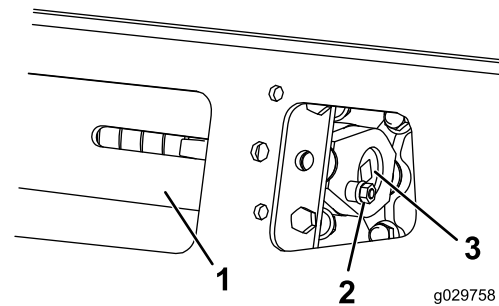
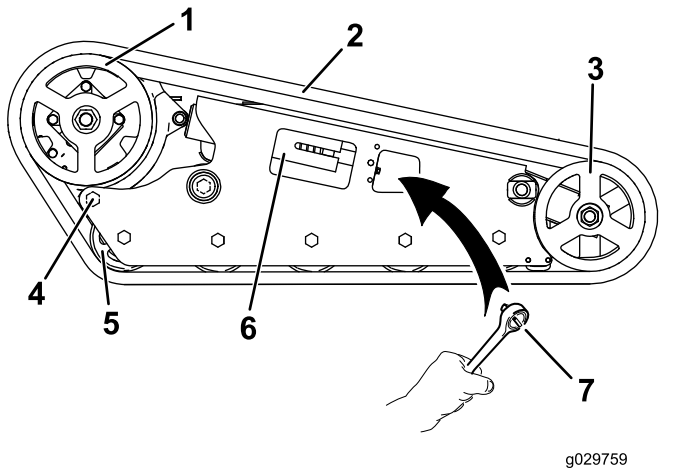

Figure 59
Figure 60
3. Remove the locking bolt and nut (Figure 59).
5. Align the closest notch in the tension screw to the locking-bolt hole and secure the screw with the locking bolt and nut (Figure 59).
4. Remove the locking bolt and nut (Figure 59).
5. Using a 1/2-inch drive ratchet, release the drive tension by turning the tensioning screw clockwise (Figure 59 and Figure 60).
6. Loosen the rear bolt, near the drive wheel (Figure 60).
8. When the track is off the front wheel, remove it from the drive sprocket and road wheels (Figure 60).
9. Beginning at the drive sprocket, coil the new track around the sprocket, ensuring that the lugs on the track fit between the spacers on the sprocket (Figure 60).
10. Push the track under and between the road wheels (Figure 60).